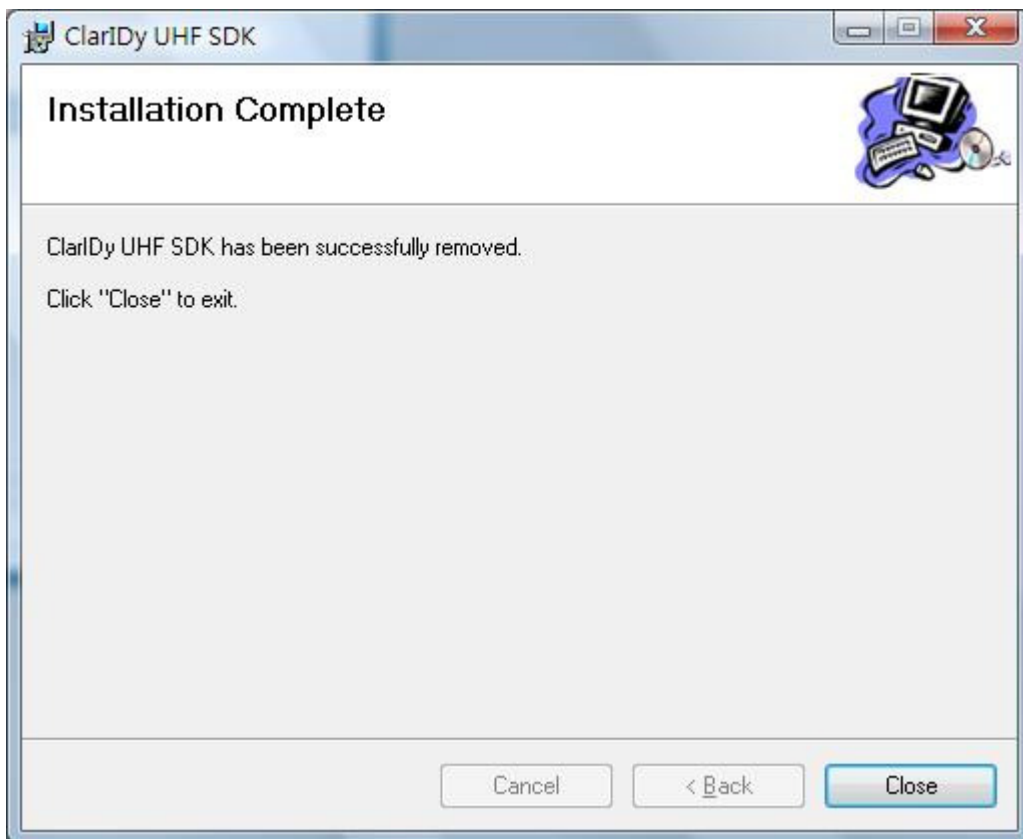

Figure 46
4. The "ClarIDy UHF Demo" is completed removed and click "Close" to close window, as figure 46.